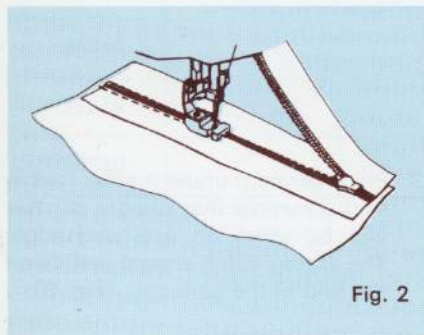

Fig. 2
2. Fold garment away from hem leaving 1/8" of hem edge extending. (Fig. 2)
Adjust the foot so the needle is sewing through the center hole of the foot and one groove of the foot is riding on the teeth of the zipper. See Fig. 2. Follow the zipper manufacturer's instructions.